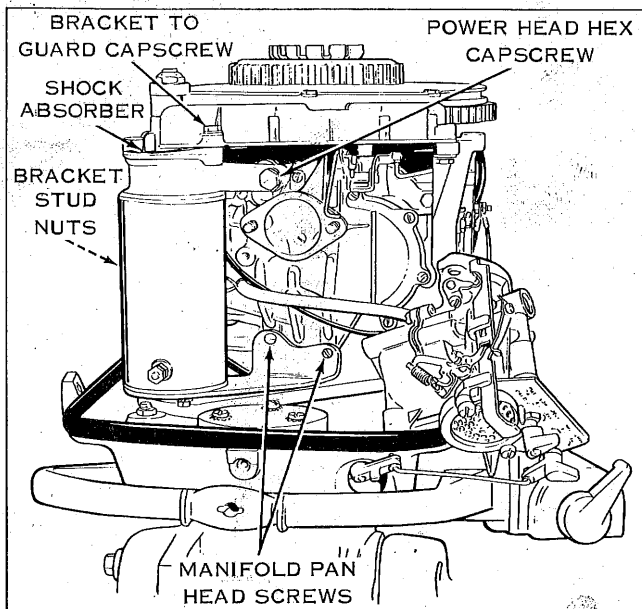

FIGURE 4
8. Install electric starter motor and bracket on powerhead. See Figure 4. Use the two longer manifold pan head screws provided.
9. Install starter pinion rubber shock absorber in upper grooves of starter motor mounting bracket. See Figure 4.